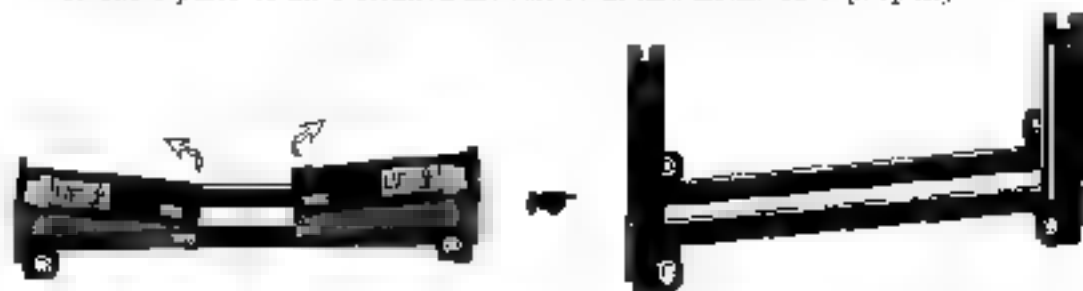

Figure 10
1. First, please refer to figure 10 below and follow the direction to lift up the fixed fo dable pentium® II Retention Mechanism. This pre-installed device is designed for you to install Pentium® II CPU more easier and to avoid any damage on the board due to overtightening the four screws.